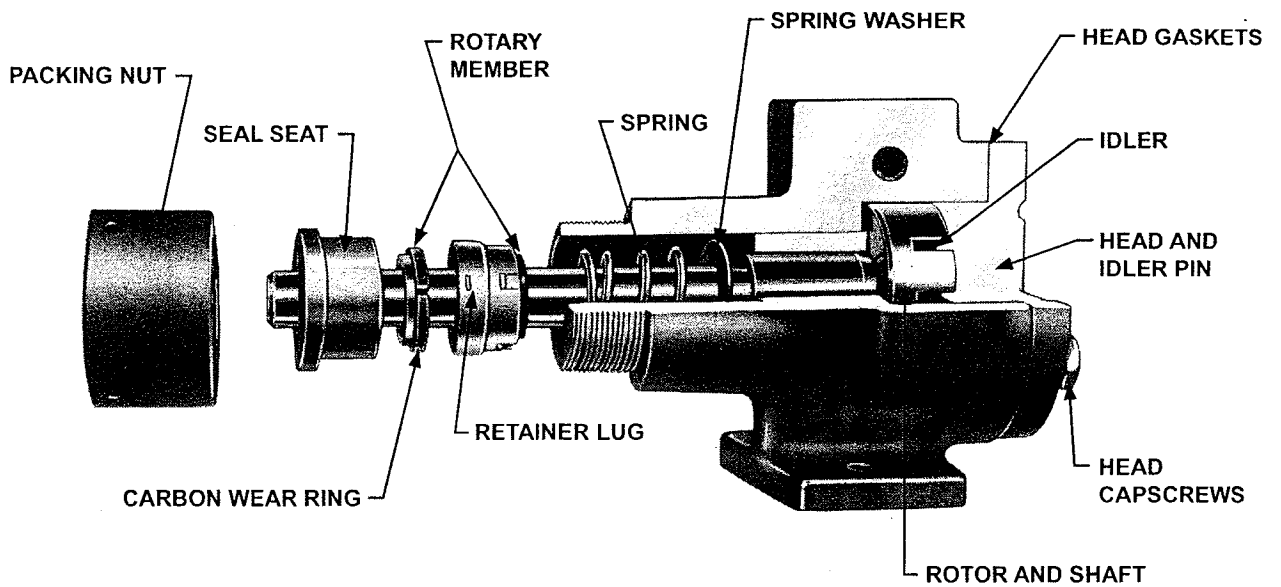

FIGURE 5
4. When reassembling a mechanically sealed pump, place the spring washer and spring on the shaft, **see Figure 5, Page 4.** Coat the shaft and the inside of the rubber bellows of the seal rotary member with light oil. Slide the rotary member part way down the shaft.